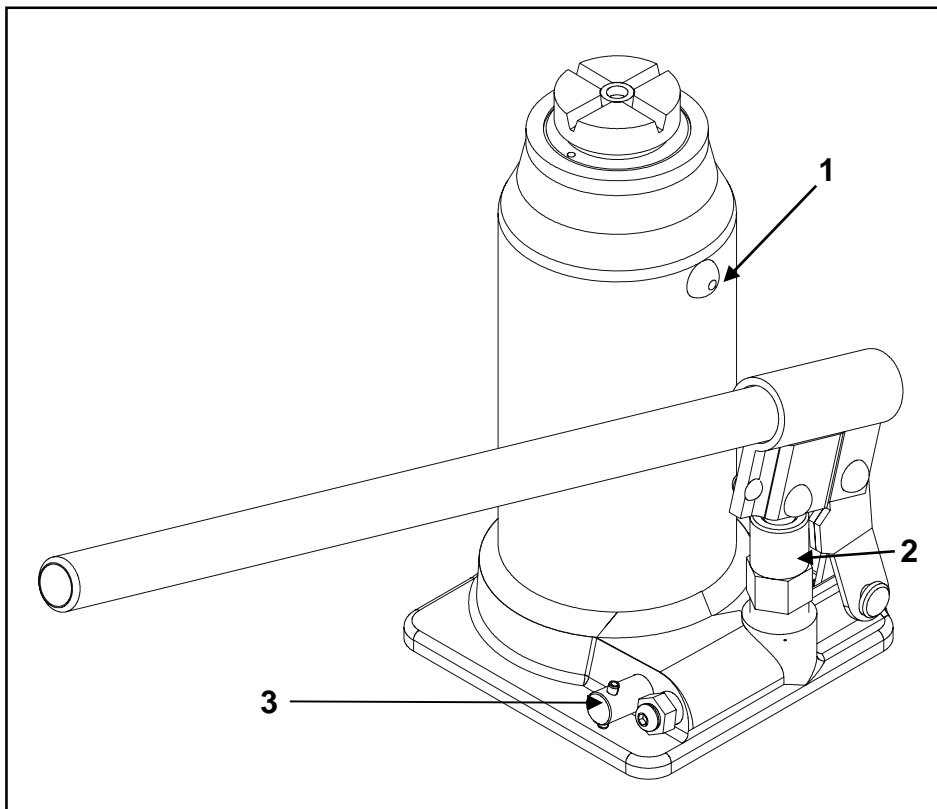

FIG. 6
- remove the cap (1 FIG. 6),
- put the cap back (1 FIG. 6).
Lowering valve dirty or worn out.	Remove the valve body (3 FIG. 6) and clean it. Handle it with care.